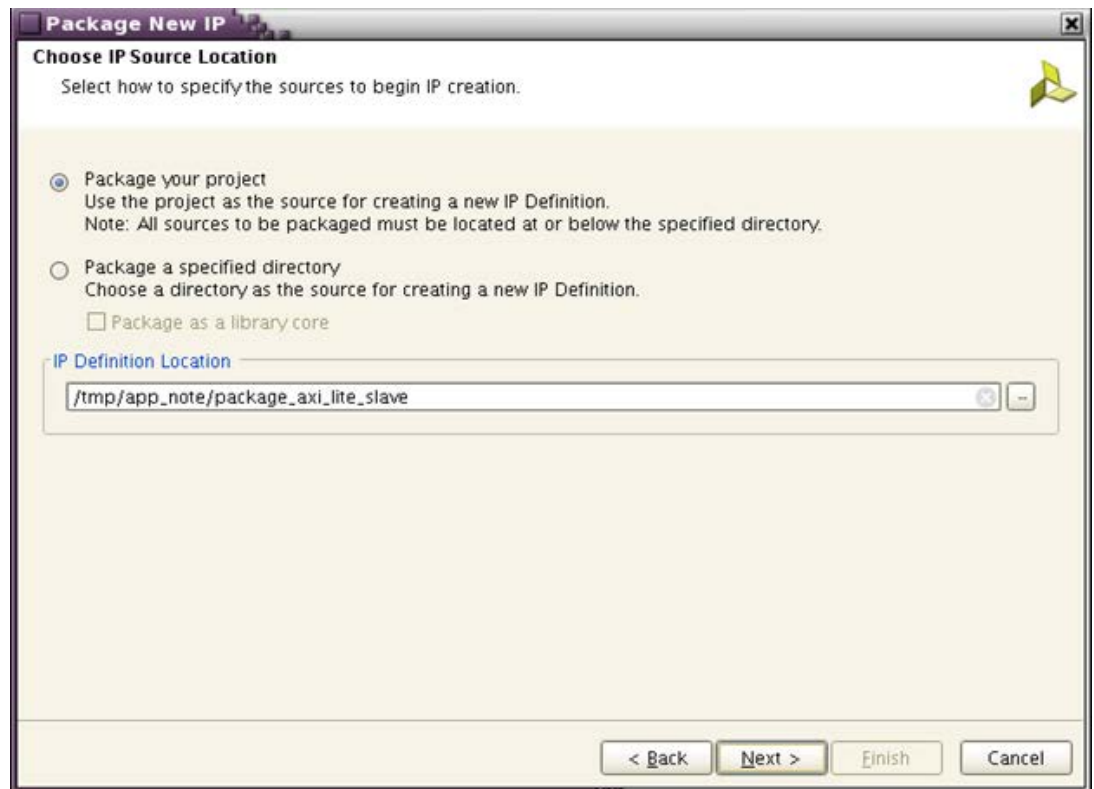

Figure 7: Package New IP Window (Choose IP Source Location)
3. Select **Package your project** in the Choose IP Source Location window, and click **Next** (Figure 7).